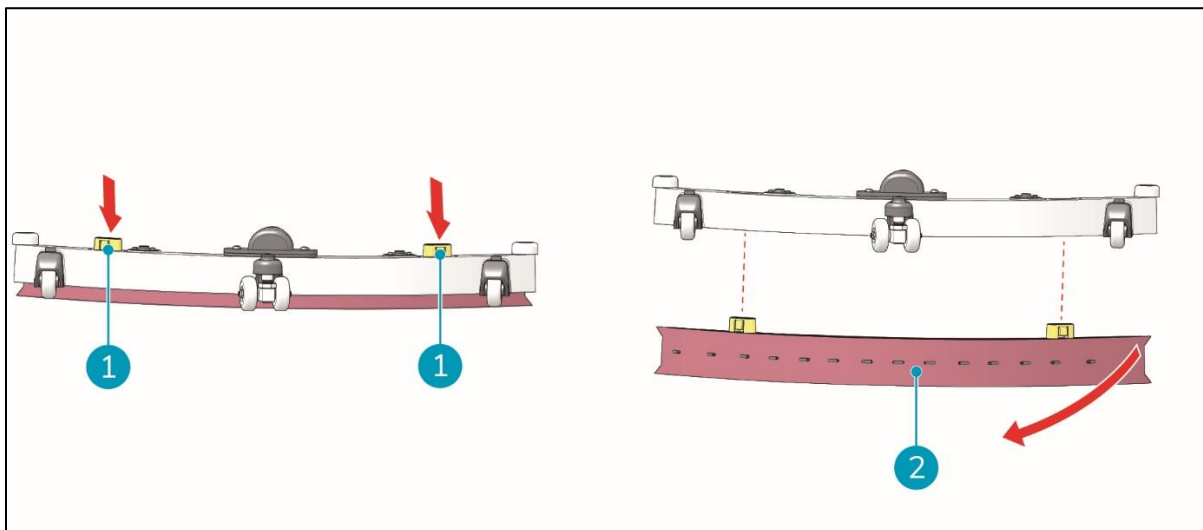

Figure 30
2. When the unit has been removed from the scrub deck, press simultaneously the two black knobs on the top of the squeegee-unit (Figure 30, pos. 1). The squeegee blades holder will detach from the squeegee blade unit. Now the squeegee blades are exposed.